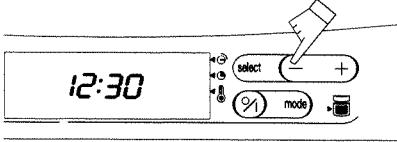

Fig. 2
2. Press the  touch controls (fig. 2) to set the time of day.
2. Press the "mode" touch control, and press once until the type of cooking selected at a time appears. (For example "conventional") (fig. 2).